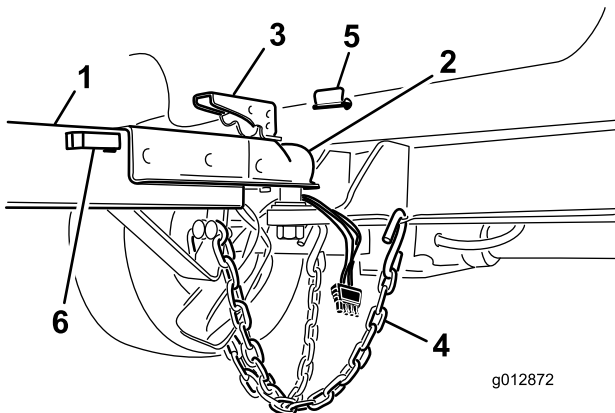

Figure 7
5. Store the harness connector in the hitch tube holster (Figure 7).
2. Lift the coupler lever on the tongue while lowering the cover over the ball hitch (Figure 7).
4. Install the locking pin to lock the coupler lever (Figure 7).
5. Cross the safety chains and attach them to the holes on the hitch (Figure 7).